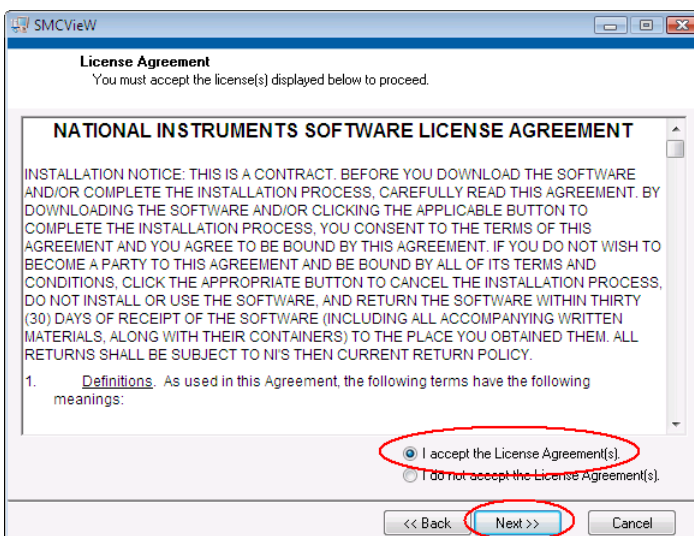

Figure 43. SMCView 4th installation screen
- Please choose "I accept..." and press the "Next>" button (see Figure 43).